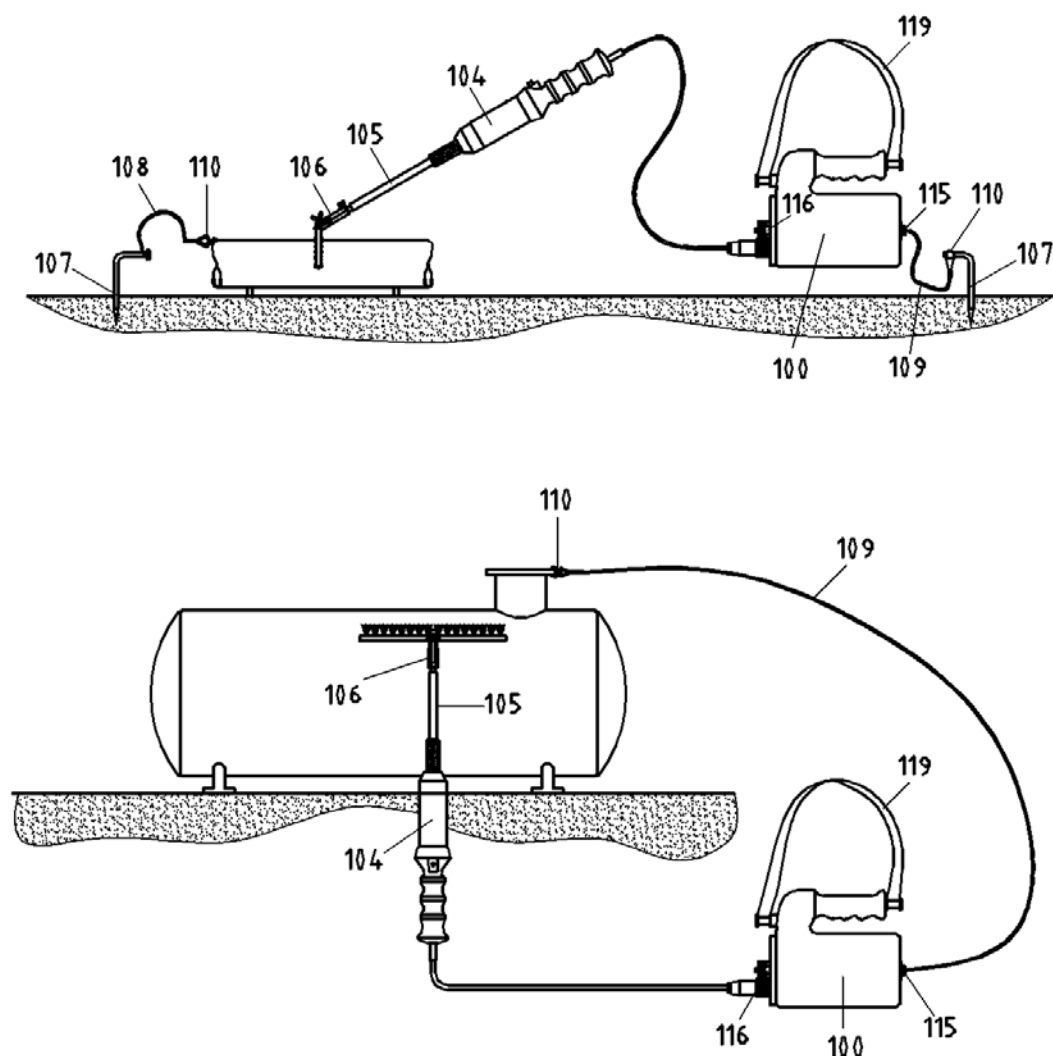

Fig. 6.1: Principle drawing
Warning Before every startup, the earth clamp (110) must be attached to the specimen! See Fig. 6.1